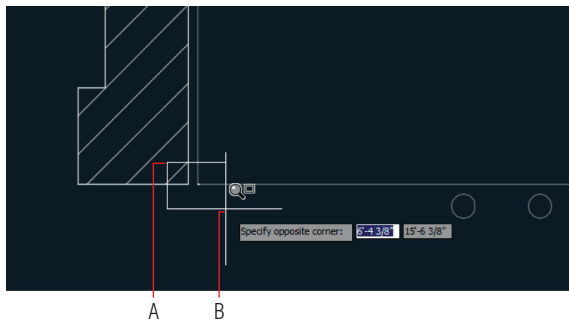

FIGURE 2.3 Zooming into a window
7. Select Zoom Window from the Navigate panel's Zoom flyout. Click points A and B, as shown in Figure 2.3. The area of the rectangle you draw is magnified to fill the canvas.